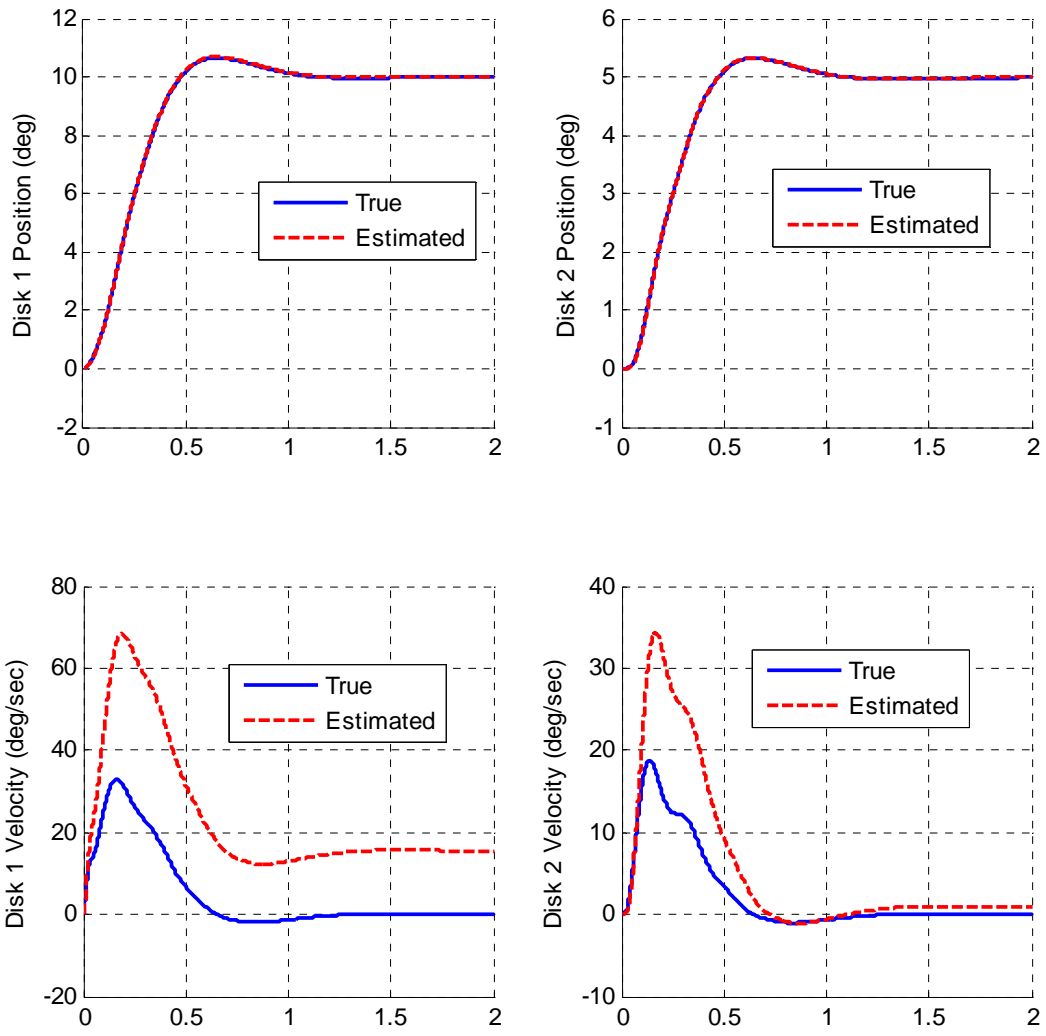

Figure 25. State feedback, full order observer, and integral control for the 2 dof system with a bad model (problem 6f).
f) Rerun the same case as in part e, but now make the state feedback poles twice as large as they originally were ($2 \cdot p_s$, leave the observer poles where they are). You should get results like those in Figure 25.